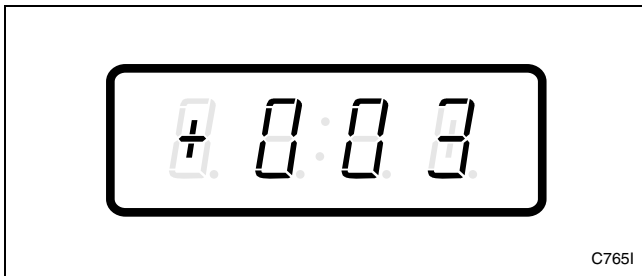

Figure 14
3. Press the DELICATES (+) or the COLD (-) keypad to scroll through the programmable options until “+003” appears in the VFD. Refer to *Figure 14*.